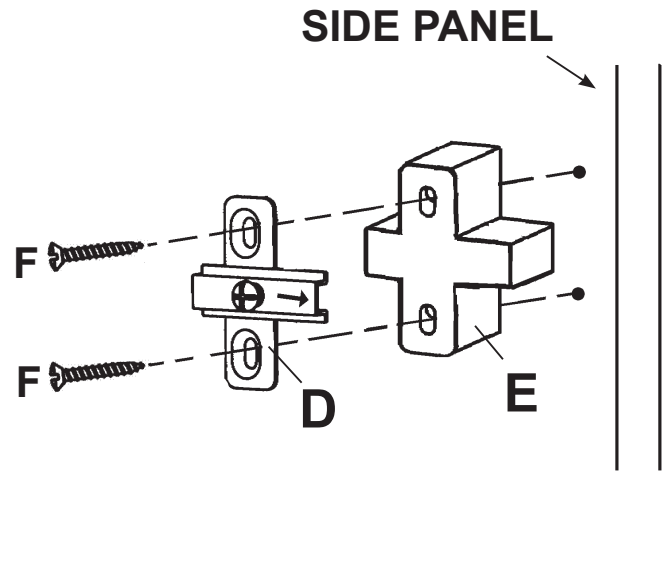

FIG. 3B
The side Panels of the base and hutch units are predrilled for the hinge location (see compatibility chart in step 2 for proper location). Attach two Hinge Plates (D) with Hinge Spacers (E), with the longer arm facing out (arrow on the plate points out), using Screw (F) in the holes. See FIGURE 3B. Repeat for the other side.